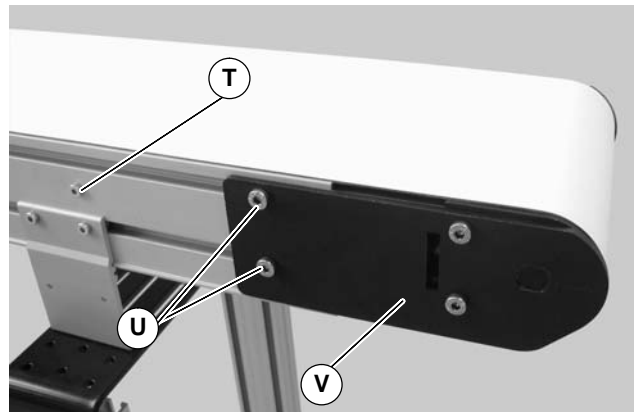
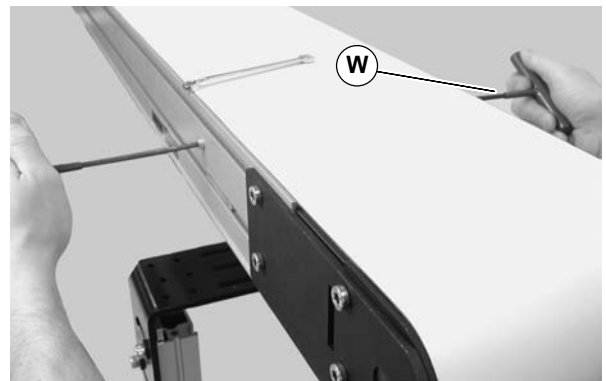

Figure 33
Figure 34
1. On tension end of the conveyor, identified by the pinion locking screw (T of Figure 33), loosen the two tail clamp bolts (U), on both sides of conveyor.
2. With 5mm hex wrench, hold pinion torque screw (W of Figure 34). Loosen the pinion locking screw (T of Figure 33) and turn the pinion torque screw (W) to extend head plate assembly.
4. After adjusting proper tensioning, tighten the pinion locking screw (T of Figure 33) to 69 in-lbs (7.8 N-m), and tighten tail clamp bolts (U of Figure 33) on both sides of conveyor to 146 in-lb (16.5 N-m).
1. Ensure tensioning racks are extended and touching the idler pulley headplates: loosen the pinion locking screw (T of Figure 33) and rotate the pinion torque screw (W of Figure 34) clockwise until contact with the head plate is made, then tighten the pinion locking screw (T) to 69 in-lbs (7.8 N-m)